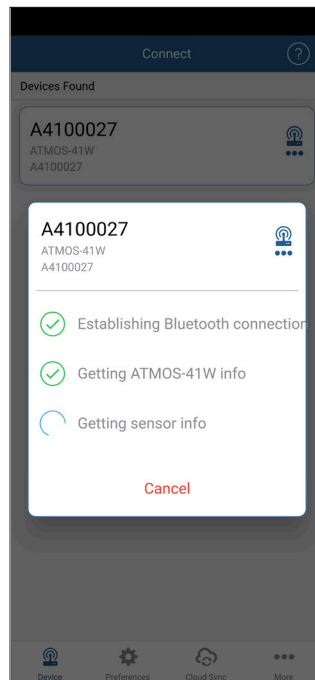

Figure 2 Establishing a connection
3. Select the ATMOS 41W to establish a connection (Figure 2).